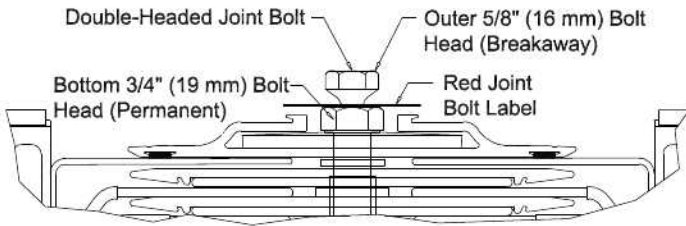

Figure 14. Double-Headed Joint Bolt
9.1.6 Using a 5/8 inch (16mm) socket wrench, tighten each double-headed joint bolt until the outer 5/8 inch (16 mm) bolt head twists off (approx. 50 ft-lbs./68 N-m). The red fluorescent joint bolt label, located between the two (2) heads, will also come away (Figure 14). Retain the bolt head and label. This process provides proper tightening torque and visual indication of initially tightened joints. The bottom 3/4 inch (19 mm) bolt head is permanent for future joint maintenance (Figure 14).